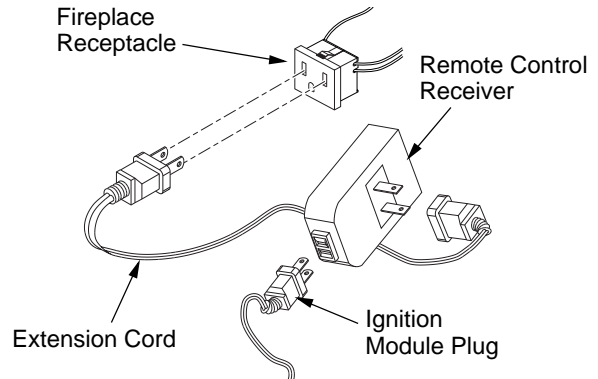

Figure 47 - Installing the WRC Remote Receiver
2. The WRC model receiver does not require a battery. The receiver can be installed by first plugging the short extension cord into the fireplace receptacle. Then plug the receiver unit into the extension cord. Finally plug the ignition module plug into the receiver unit (see Figure 47).